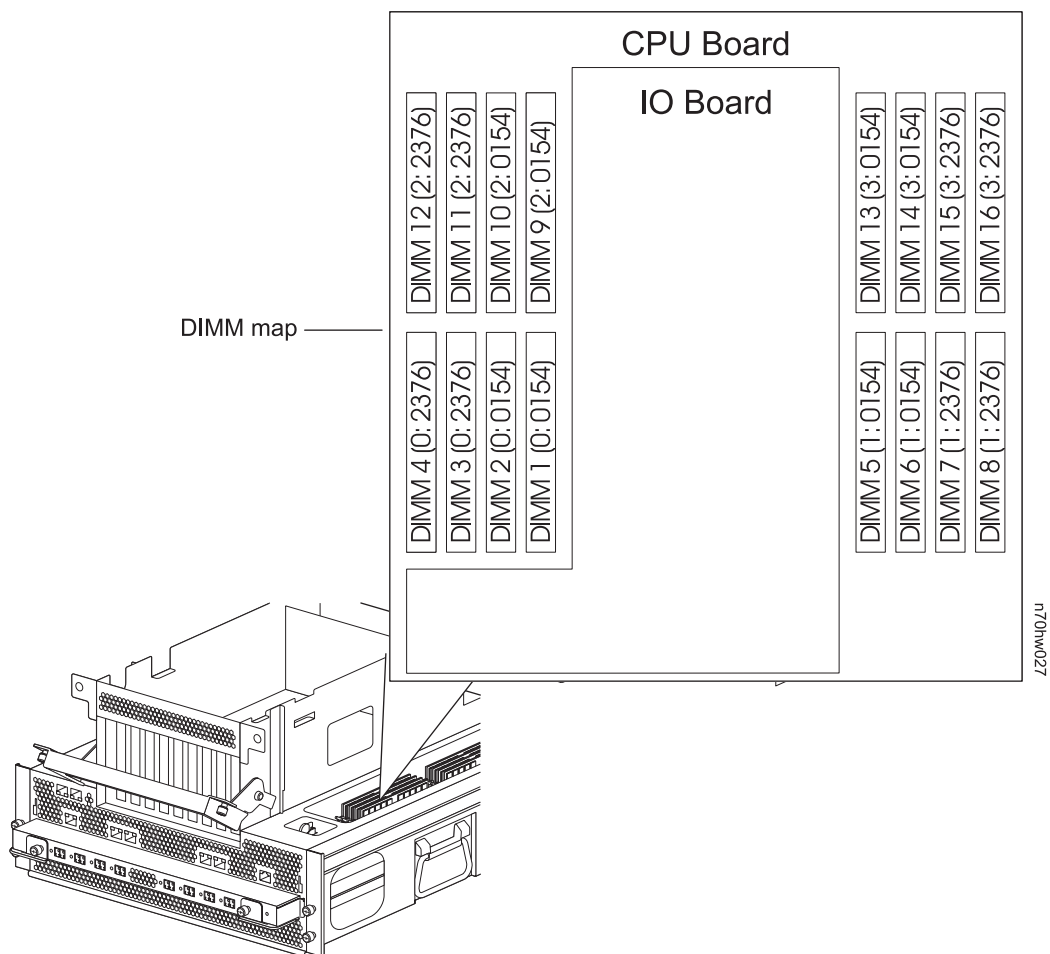

Figure 28. DIMM slots
3. Locate the slot where you are installing the new DIMM. Figure 28 on page 60 shows the locations of the DIMM slots.